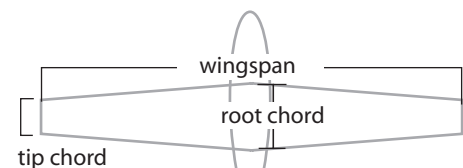

Figure 2
- B. Have students calculate the wingspan (in cm) for each wing. The wingspan is the linear distance from wing tip to wing tip. See Figure 2. Record the value on the data chart.
- C. Have students measure the root chord, the width of the wing at the line of intersection with the fuselage, for each wing. See Figure 2. Record the value on the data chart.
of the tip of the wing, for each wing. See Figure 2. Record the value on the data chart.